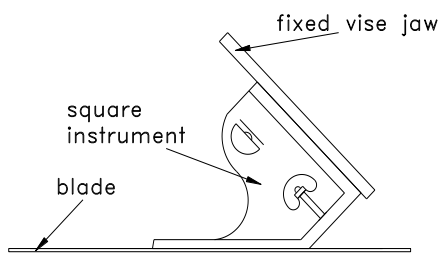

Fig. 4-7 45° Miter Cutting
3. loosen the two lock bolts (Fig 4-6 No.2 and No.3) of the fixed vise jaw, then adjust the fixed vise jaw 45° against saw blade by an accurate square instrument (Fig 4-7). Tighten the two lock bolts.
2. Loosen the lock nut (No. 3) and lower down the saw bow, then place the level on the top of saw blade (Fig. 4-7) to obtain leveling of the bed horizontal line by adjusting the screw (No. 2).